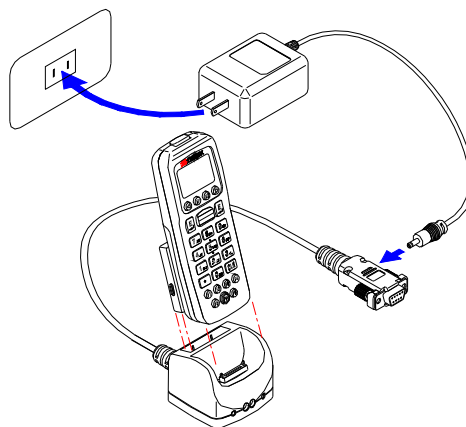
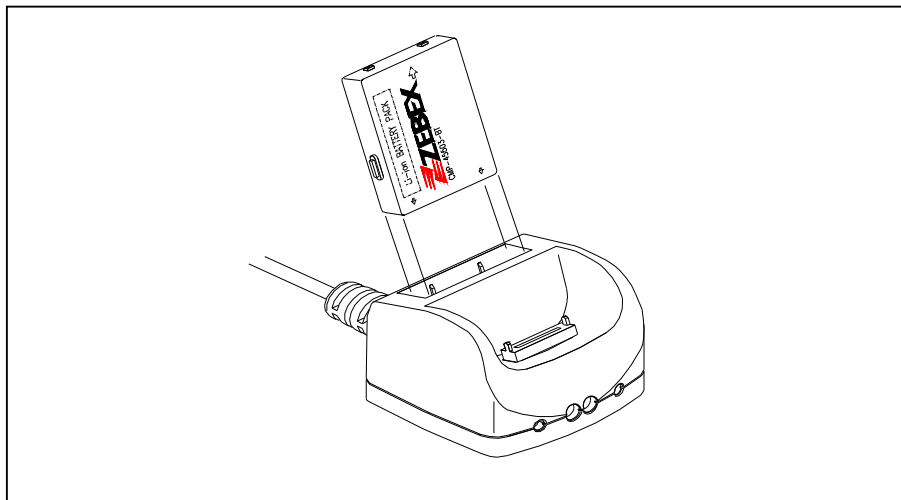

Fig 2
Fig 3
- a. Put the **PDL-20** on the cradle as shown in figure 2.
- e. The battery is always charged via the cradle. There are two ways to charge the battery. First, take the battery out from the **PDL-20**, and insert it in the back slot of the cradle for fast charging, as shown in Fig 3, which takes about 3 hours before it is fully charged; second, put the battery in the **PDL-20**, and place it on the cradle, with the **PDL-20** either on or off, for slow charging, as shown in Fig 2. This will need approximately 6 hours. To maximize the battery's life span, it is recommended that slow charging be adopted unless there is a need for fast charging.